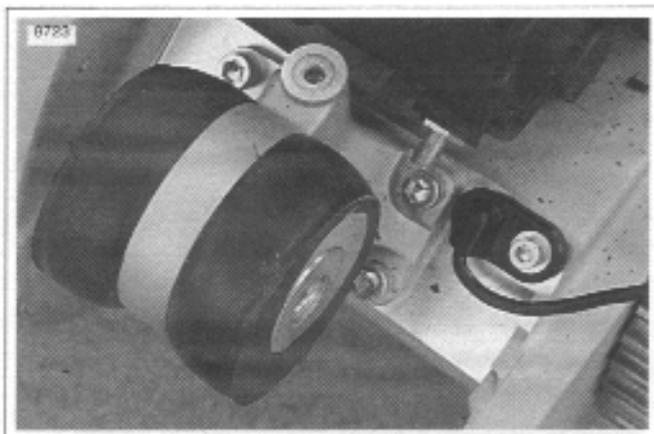

Figure 3-32. Rear Isolator and Mounting Hardware
41. See Figure 3-32. If the crankcases are being separated it will be necessary to remove rear isolator assembly by removing the forward two fasteners first and then the two rear fasteners (re-install with **new** fasteners).